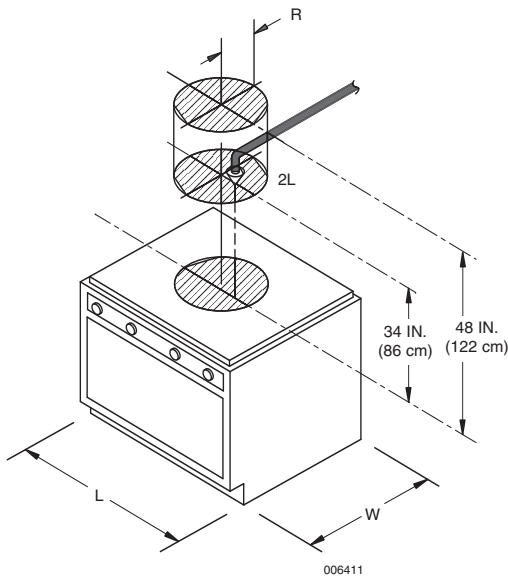

Figure 3-5.
The Model 2L nozzle, Part No. 551027, is used for high proximity large range protection. This nozzle is a two (2) flow nozzle. **When using high proximity protection, the range cannot be under a backshelf.** This nozzle must be located 34 in. to 48 in. (86 to 122 cm) above the cooking surface, and aimed directly down within the mounting area, based on the hazard size, as described in the Nozzle Positioning Chart. See **Figure 3-5.**